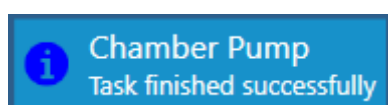

Figure 6-9 Chamber pump finished
- 11 Wait until base pressure is reached. The Status panel returns to normal and a **Task finished successfully** panel is displayed for a short time at the bottom right of the page (see Figure 6-9).